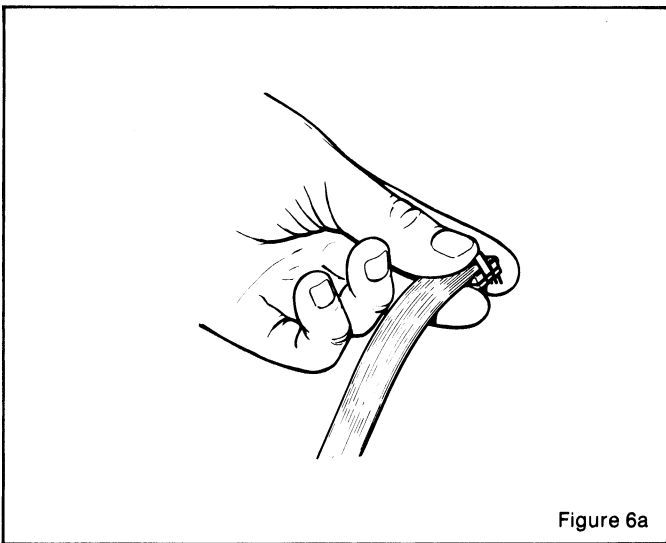

Figure 6a
2. Engage one end of the clip under the body and snap the clip over the assembly, engaging the opposite end with finger pressure. This may be done with assembly in hand or in locator plate. (Figures 6a and 6b)